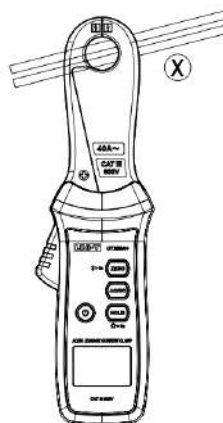

Figure 4.2
- 3) The Meter can only measure one current conductor at a time. If two or more current conductors are measured simultaneously, the measurement reading will be incorrect. (See Figure 4.2)